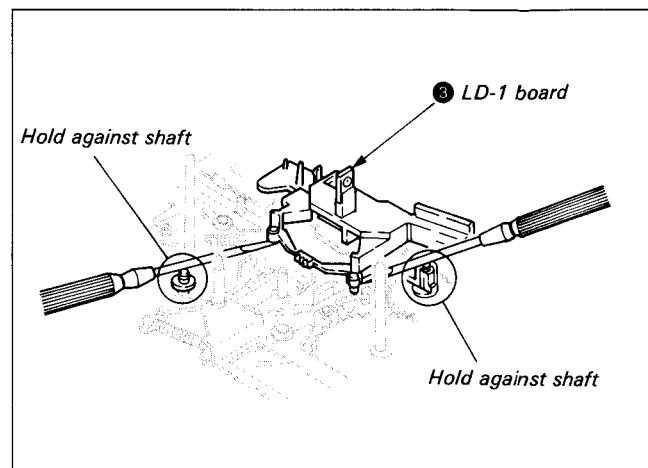

Fig. 7-37.
7-3-14. M-SW Assembly (See Fig. 7-37~39)
- 2) Remove stopper washer ① and the drive gear (B) assembly ②.
- 3) Remove the LD-1 board ③. (See Fig. 7-37.)
- 5) Remove tension spring ④ and B release arm ⑤.
- 7) Remove stopper washer ⑥ and the mode output gear ⑦.
- 8) Remove screw ⑧ and the push switch ⑨.
- 9) Remove connector ⑩.
- 10) Remove the three screws ⑪, the control motor cover ⑫ and the M-SW assembly ⑬.
- 11) Remove solder ⑭ and remove the DC motor ⑮.
- 5) Perform 7-3-14., 1. Removal, Steps 1)~5). (See Fig. 7-37, 7-38.)